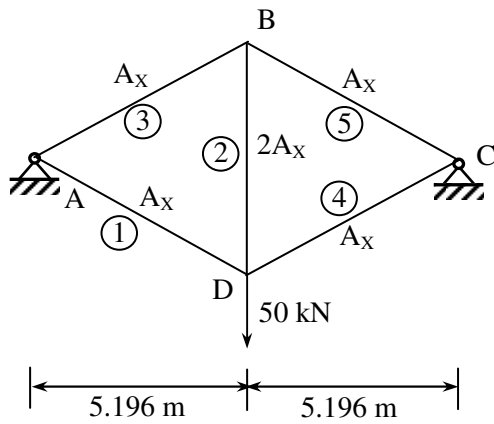

Figure 1
- Q.1** (a) For the truss shown in Figure 1, obtain rearranged joint stiffness matrix. **06**
- (b) Determine free joint displacements, support reactions and member end-actions for the truss shown in Figure 1 using stiffness member approach. Tabulate the member forces. **06**